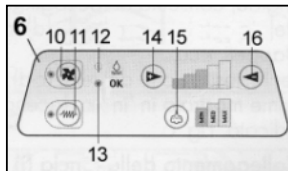

Fig. 10
- Adjust the vacuum suction on the panel control with buttons (14) (15) (Increase/Decrease vacuum suction) Fig. 10
- Switch On button on the machine at the main switch (3) and push the steam heating button (11). Once the ready light (13) illuminates, the steam is ready to use. Fig. 10
- Adjust the steam volume via the button (15) on the control panel (6). Fig 10